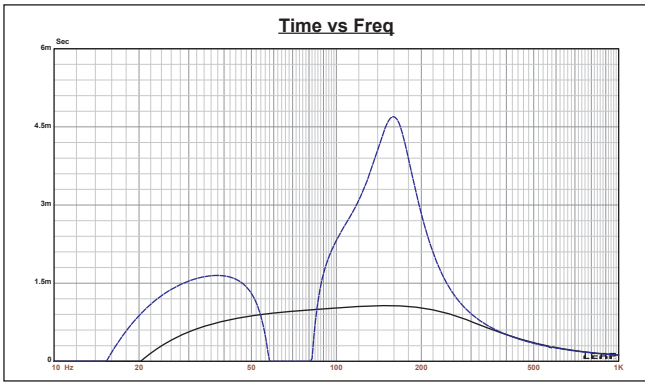
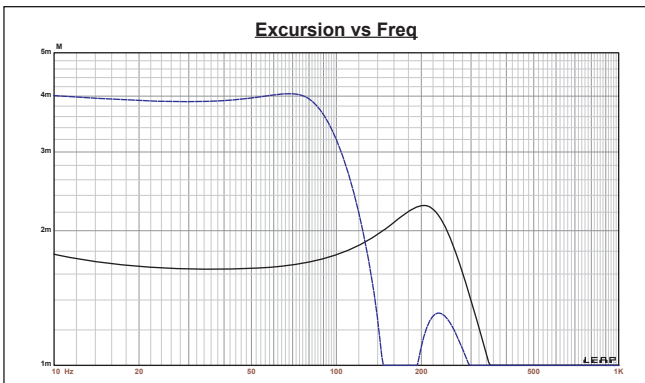

Figure 3: Group delay curves for the 2.83 V curves shown in Figure 2
Figure 4: Cone excursion curves for the 15 V curves shown in Figure 2
0.68 for the 5.2 in³ sealed enclosure and -3 dB = 158 Hz (-6 dB = 145 Hz) for the 8.3 in³ passive radiator simulation. Increasing the voltage input to the simulations until the maximum linear cone excursion was reached resulted in 97 dB at 20 V for the sealed enclosure simulation and the same 97 dB with the same 10 V input level for the passive enclosure. **Figure 3** shows the 2.83 V group delay curves. **Figure 4** shows the 20/10 V excursion curves). The voltage to the passive radiator simulation was limited to 10 V as the excursion curves rises steeply below 110 Hz. As with any